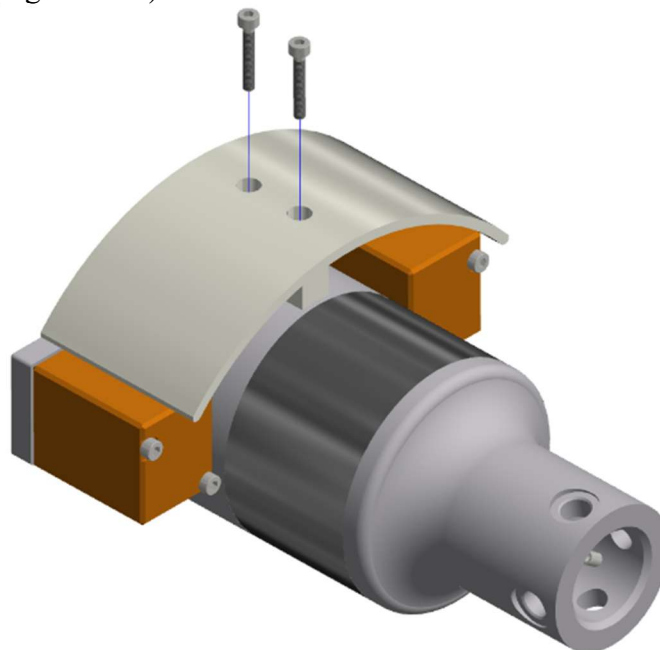

Figure 9-33. Attach the Cable Connector Guard (474-5107) using two M3 X 0.5 X 20 LG. SHCS
- 9.3.3 Attach the Cable Connector Guard (474-5107) using two M3 X 0.5 X 20 LG. SHCS (Figure 9-33).